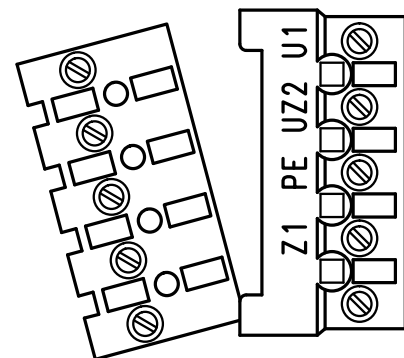

Fig. 2: Motor Terminal Rail
- Pull out 5 - pol. motor plug U1/UZ2/Z1 and PE (**Fig. 2**)